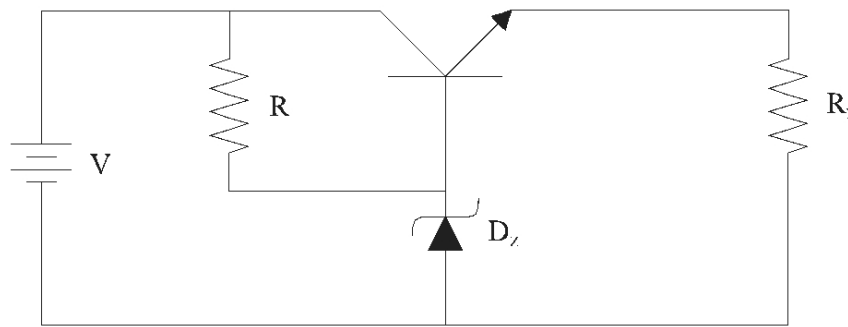

Figure 7-8-1. Discrete regulator.
1. Perform the assembly shown in figure 7.8.1 and measure the output voltage without load.